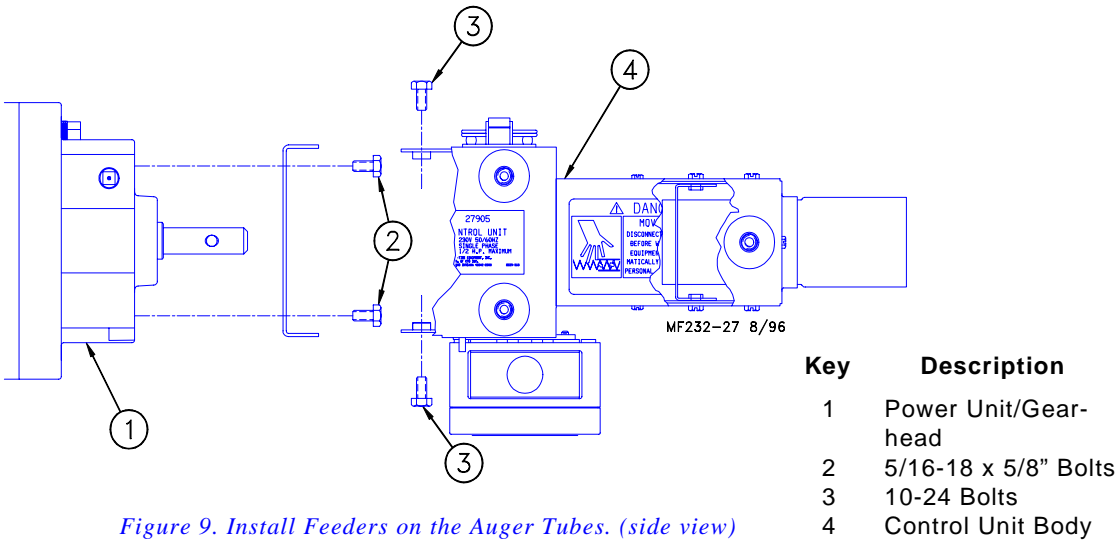

Figure 9. Install Feeders on the Auger Tubes. (side view)
- 1. Remove the four 5/16-18x5/8" bolts from the parts package and use them to bolt the Anchor Plate to the Power Unit. Install the Anchor Plate with the angled end pointing down. See Figure 9.
- 2. Bolt the Control Unit Body Assembly to the Power Unit, using hardware supplied. See Figure 9.
9. Mount the control unit on the end of the feeder line and secure with a tube clamp, as shown in Figure 9. The distance between the control unit pan and the last pan should be five feet (1.5 m) or less.